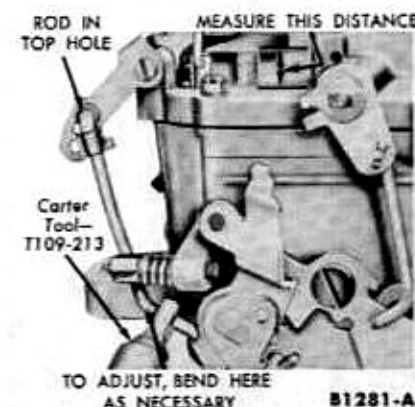

FIG. 46—Accelerating Pump Adjustment
2. With the pump link in the center hole (medium stroke) of the pump arm, measure the distance from the top of the air horn to the top of the plunger shaft (Fig. 46). The distance should be $\frac{3}{4}$ inch.